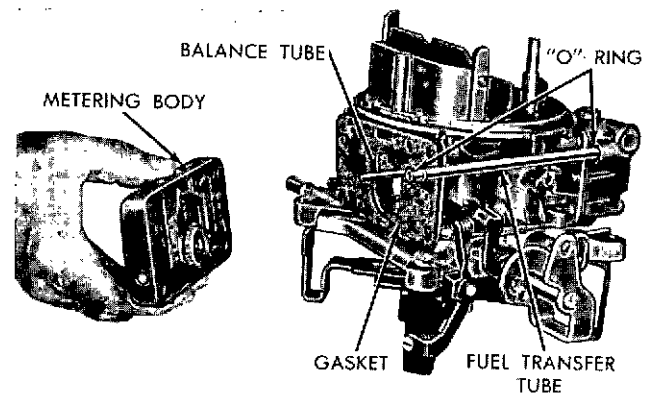

FIG. 44 Installing Primary Metering Body (Model 4160)
3. Carefully install primary metering body over balance tube (if used) and press firmly on dowels (Figure 44).